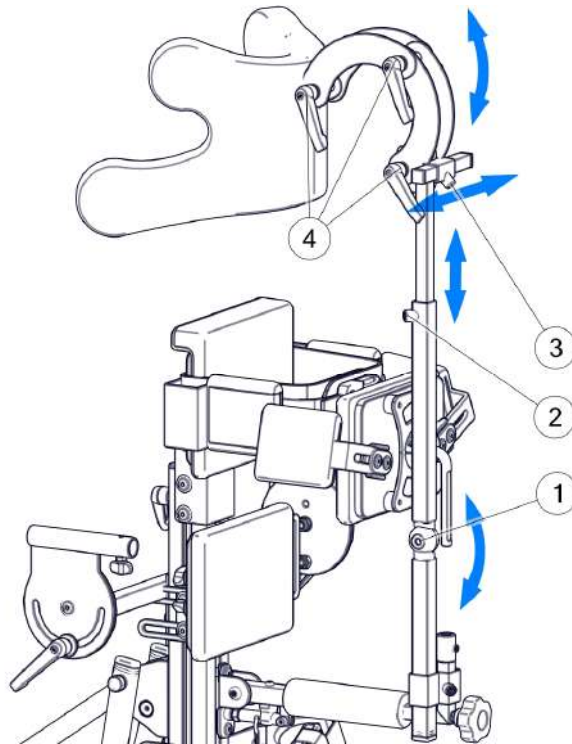

Fig. 39
Fig. 39 The head support is fully adjustable, as far as depth, height and sides are concerned. Proper adjustments can be made by loosening screws (1), (2), (3) and (4). Loosening screw (1) allows adjusting the angle of the head support. Screw (2) allows adjusting the head support in the up-down axis. Screw (3) enables you to adjust the head support to the sides. Handles (4) allow adjusting the angle of the head support, along with its depth.